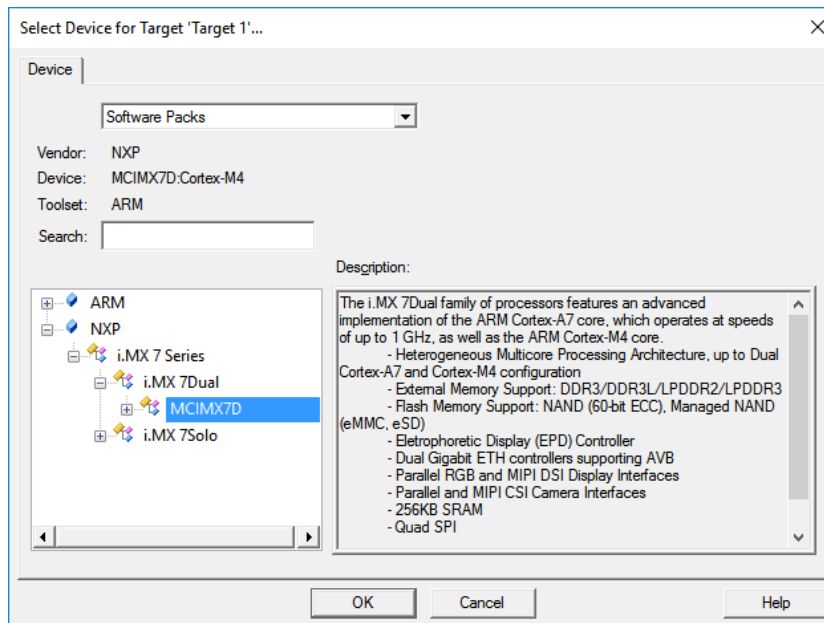

Figure 65 - Select target in uVision
1. Create a project and select an iMX 7Dual device in the package manager as shown in Figure 65.